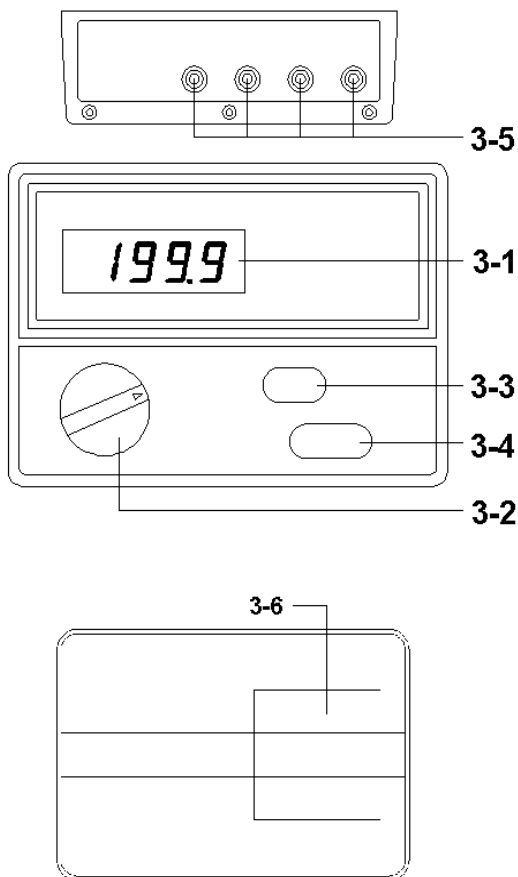

Fig. 1
3. Rotate the "Function/Range Switch" (3-2, Fig. 1) to the right position before making measurement.
4. Slide the "Power Lock/Manual(off) Switch" (3-3, Fig. 1) to the off position if the meter not be used.
1. Connect the RED test plug into "ohm terminal"(3-5, Fig. 1)
2. Connect the BLACK test plug into "COM terminal"(3-5, Fig. 1)
3. Rotate the "Function/Range Switch"(3-2, Fig. 1) to the "200 OHM" position.
5. Push the "Test Button"(3-4, Fig. 1) for measurement.
1. Connect the RED test plug into "Hi terminal"(3-5, Fig. 1)
2. Connect the BLACK test plug into "Lo terminal"(3-5, Fig. 1)
3. Rotate the "Function/Range Switch"(3-2, Fig. 1) to the "200M ohm/100V", "200M ohm/250V", "200M ohm/500V" or "1000M ohm/1000V" position according the user's requirement.
1. Connect the RED test plug into "ACV terminal"(3-5, Fig. 1)
3. Rotate the "Function/Range Switch"(3-2, Fig. 1) to the "600 ACV" position.
Typically, when make the general measurement, always slide the "Power Lock/Manual(off) Switch"(3-3, Fig. 1) to the MANUAL(off) position. Then push the "Test Button" will power on the meter until release the "Test Button"(3-4, Fig. 1). However if user intend to power on the meter permanently & making the measurement continuously, then it should to slide the "Power Lock/Manual(off) Switch"(3-3, Fig. 1) to the POWER LOCK position.
2. Loose the screws that on the battery cover(3-6, Fig. 1). Slide the battery cover & remove the battery.